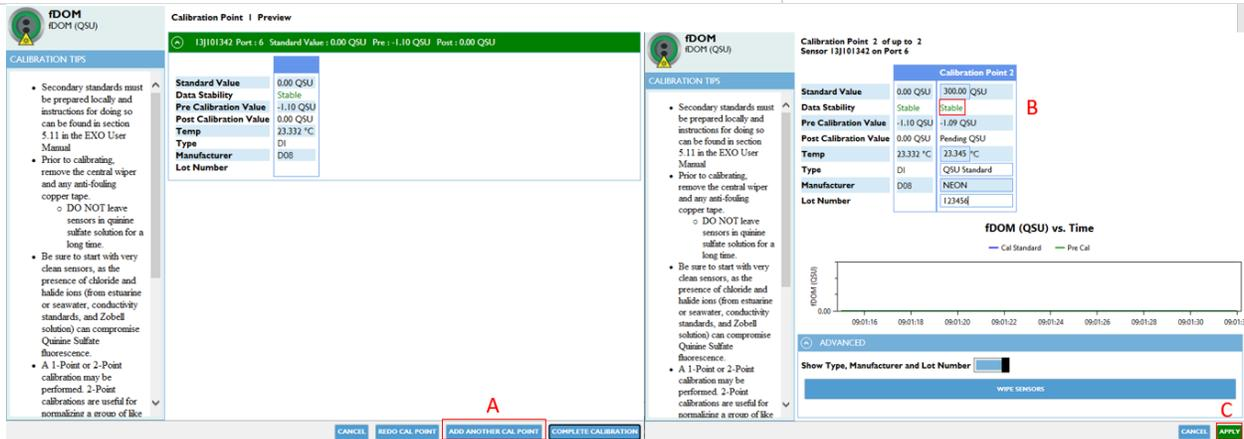

Figure 100. Proceed to second calibration point.
**STEP 5** | In the new window, click **“Add Another Calibration Point”** (A in **Figure 100**), to proceed to the next solution in the second calibration point. Once data is stable (B in **Figure 100**), hit **“Apply”** (C in **Figure 100**) to complete calibration.